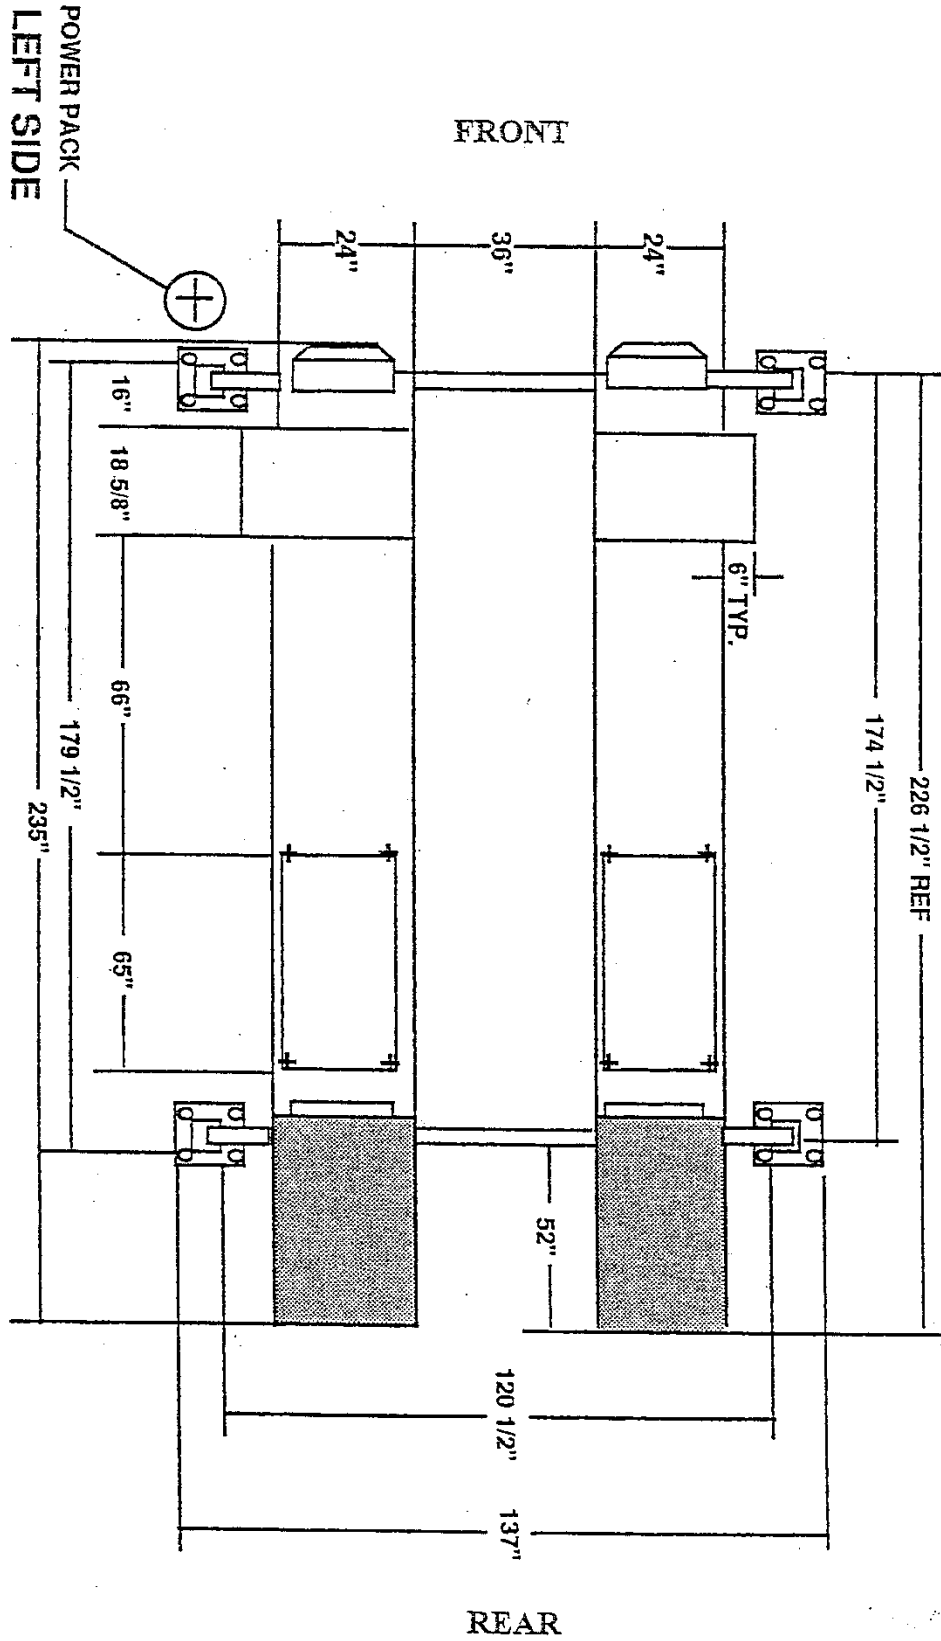
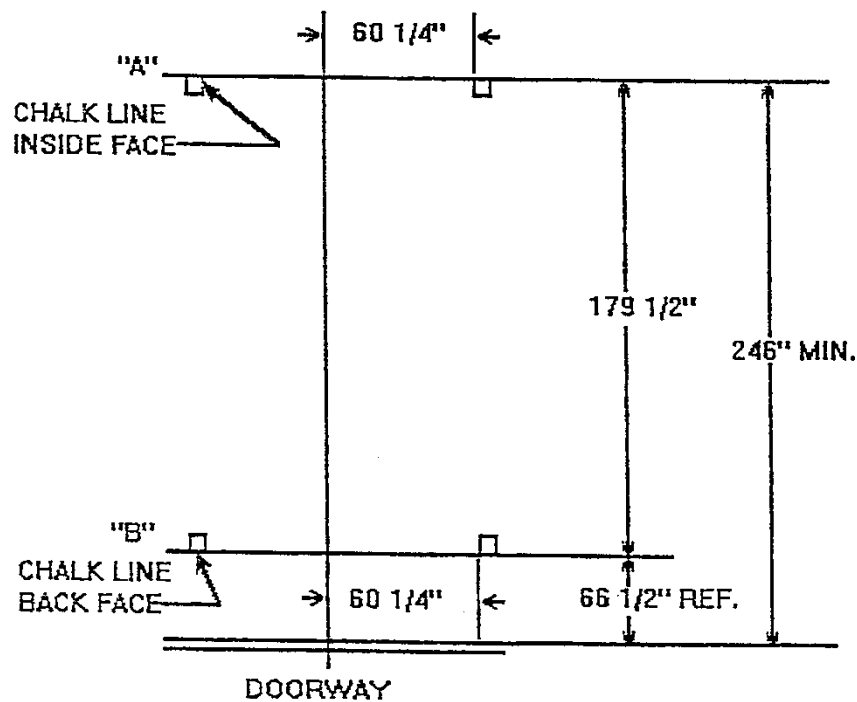
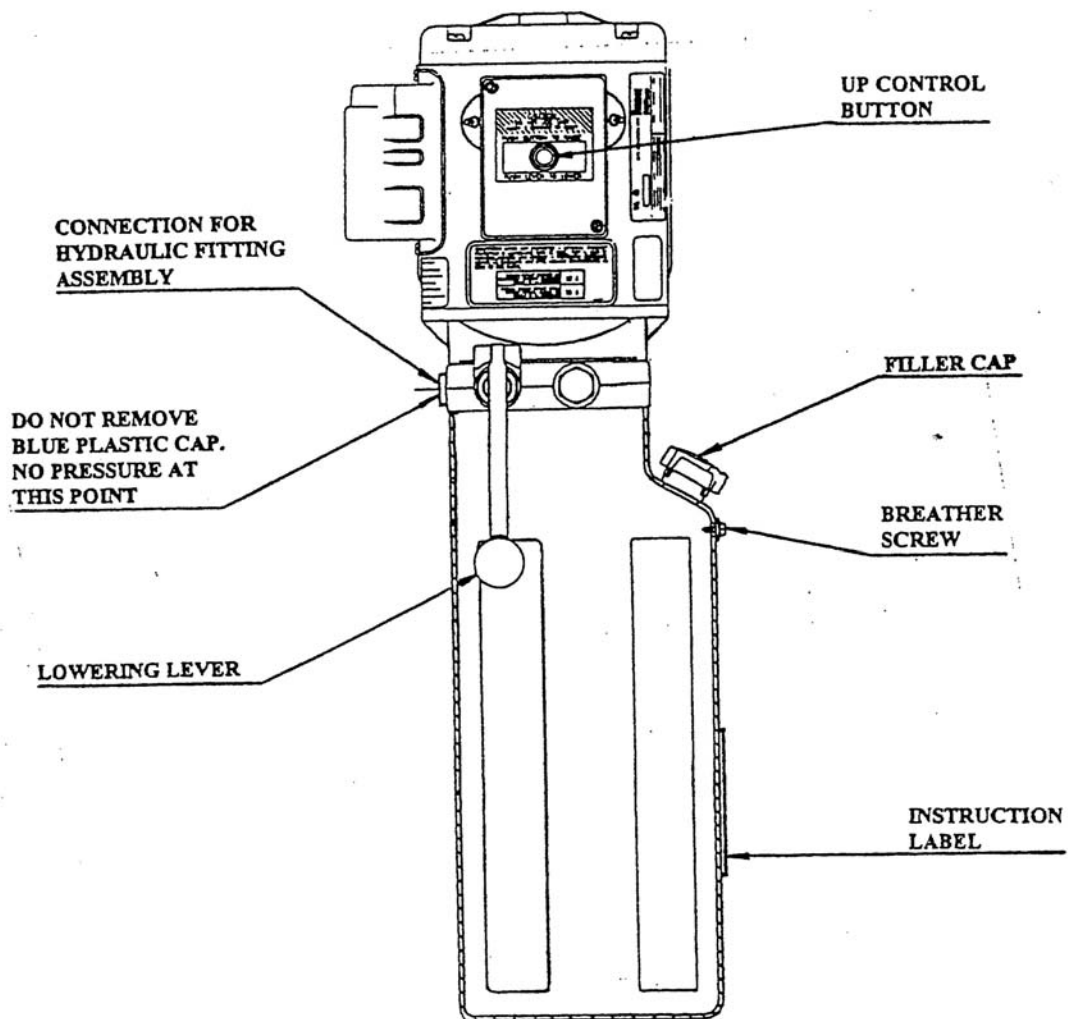

Figure 1
Figure 2
Figure 7
- An outline matching the dimensions listed below will need to be marked on the floor. Refer to Figure 2 for outline dimensions. Refer to General Lift Specifications for overall lift dimensions. Figure 1.
Refer to Figure 2. Make a chalk line parallel to the doorway at least 246 inches in from the doorway. This will be the furthest front face of the front post location. Call this line "A". Determine the center of the doorway and bay. Make a centerline to intersect with line "A". Measure from the centerline along line "A" 60 1/4 inches in both directions. This will be the location of the inside face and front face of the front posts. Measure back from this line "A" 179 1/2 inches. Make a chalk line parallel to line "A". Call this line "B". This will be the location for the back face of the rear posts. Measure from the centerline along line "B" 60 1/4 inches in both directions. This will be the location of the inside face and back face of the rear posts. Position work stands inside of line "A" and "B" of outline, to support the front and rear of each deck assembly.
- Stand posts into position according to Figure 1 and 2.
- Install the threaded stud end of the cables through the top of the post. Use a 7/8" flat washer, and two (2) 7/8"-14 UNF hex nuts with cable spacers as required, to compensate for uneven floors.
- Bolt the power pack to the mounting bracket on the front face of the left front post using four (4) 5/16"-18UNC x 1"LG. hex head bolts and four 5/16" lockwashers. Refer to Figure 7.